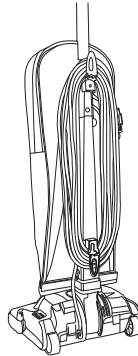

Fig. 6
4. Wrap the cord clockwise around the top and bottom cord hooks (Fig. 6). Fasten the plug to the wrapped cord using the channel on the plug. When not in use store the appliance indoors in a clean dry area where it can't be damaged or cause injury.